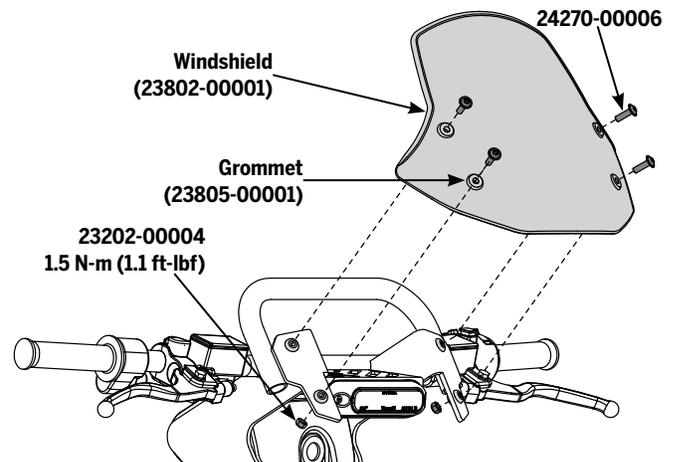

Figure 43: Windshield
2. Using both a 4 mm hex wrench and a 10 mm socket wrench, remove the four hex nuts on the underside of the Windshield. See **Figure 43**.